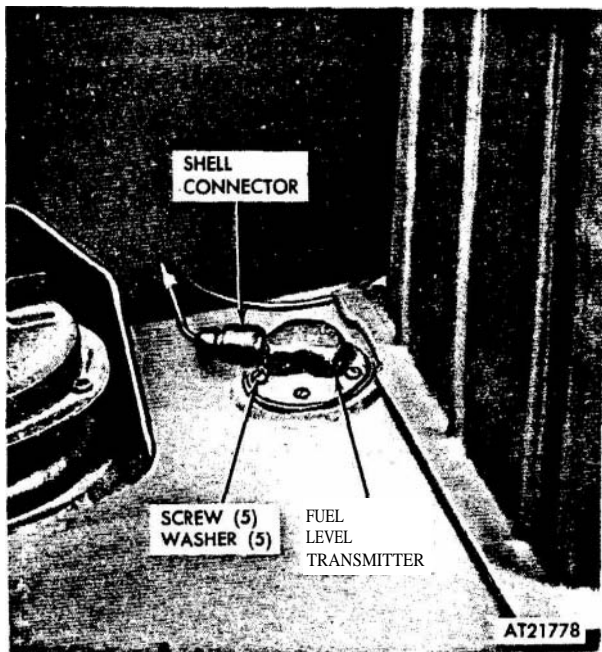

Figure 2-126. Fuel level transmitter.
- (1) Disconnect electrical connector from fuel level transmitter on left fuel tank (fig 2-126).
- (2) Clean dirt away from fuel level transmitter.
- (3) Remove fuel level transmitter from fuel tank by removing five screws and washers. Carefully lift fuel level transmitter through tank opening.